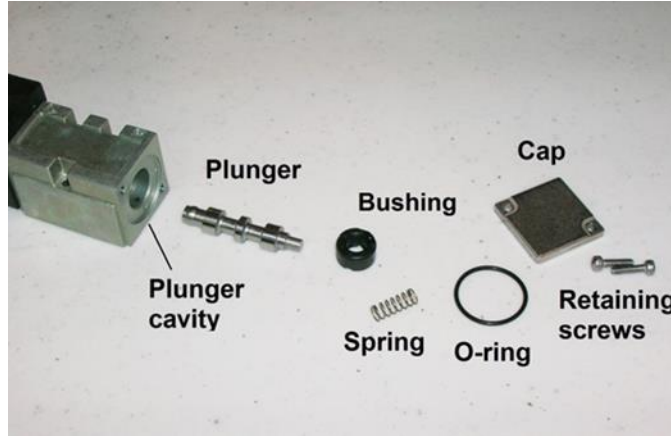

Figure 5-3: Solenoid Parts
- Carefully remove the spring, the O-ring, the bushing, and the plunger (Figure 5-3).